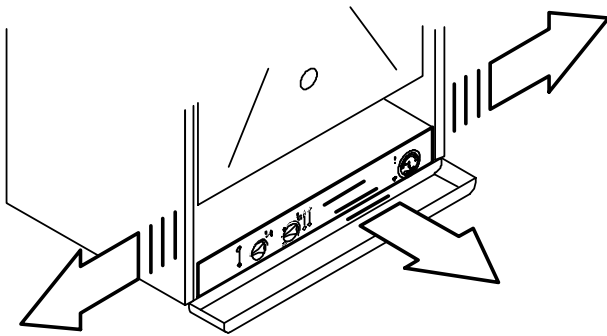

Fig. 6.11
- 4 Remove the side panels or move the lower part of the side panels as indicated in Fig. 6.11 and pull the control panel. When completely pulled out, the panel can rotate 45° downwards to facilitate the operations on the internal parts.